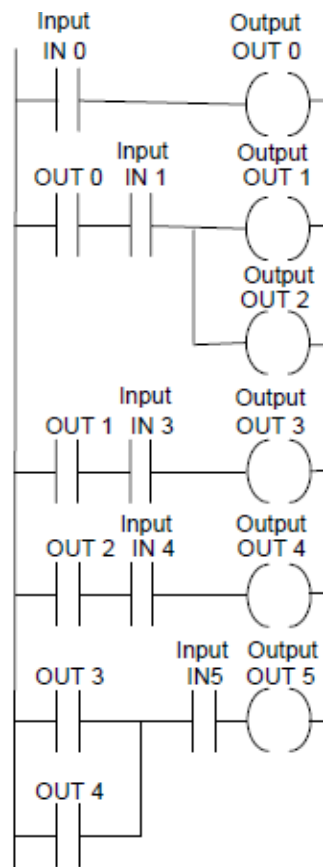

Figure 1
(b) Design Function Block Program (FBD) for the ladder diagram given in figure 1 of page 3. **07**
- Q.3** (a) Design Sequential Function Chart Program (SFC) for the ladder diagram given in figure 1 of page 3. **07**
(b) Write Instruction List Program (IL) for the ladder diagram given in figure 1 of page 3. **07**